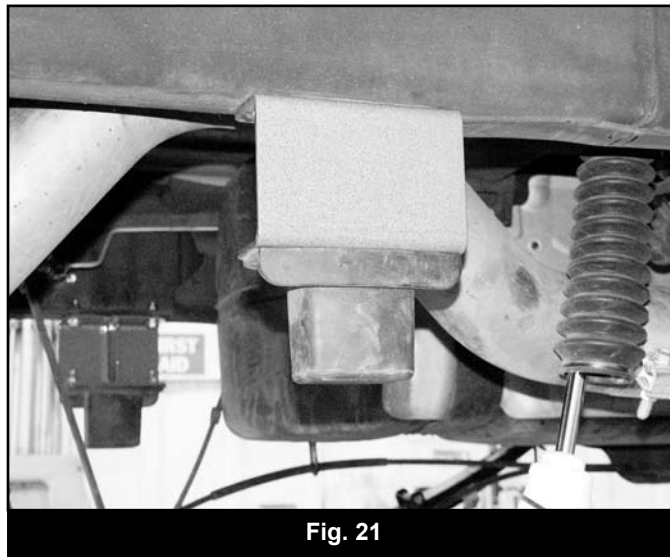

Fig. 20
68. With the new holes drilled, reinstall the new torsion bar brackets on the frame with the provided 9/16" x 3" bolts, nuts, and washers through the factory mounts. Install 1/2" x 1-1/4" bolts, nuts and washers (from pack #577) through the bracket and newly drilled holes (Figure 20). Leave all hardware loose.